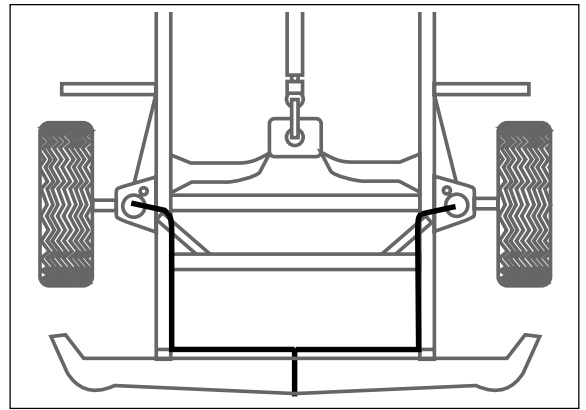

Figure 5
- j. Push the remaining air line over the last fitting on tee and route along frame to desired inflation valve location (Figure 5). Attach with plastic straps or use the supplied self tapping bolts with hose clips.